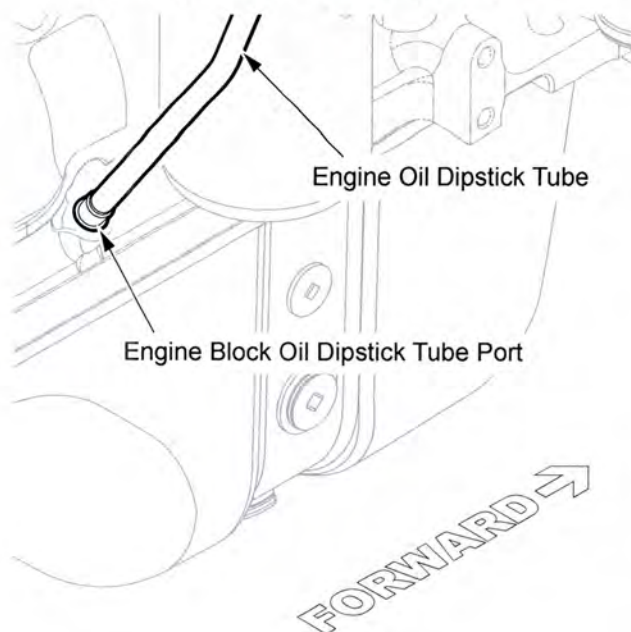

Figure 4
6. Using a pin punch (or other suitable tool) and a hammer, tap the press fitting into the engine block oil dipstick tube port until fully inserted (see Figure 4).